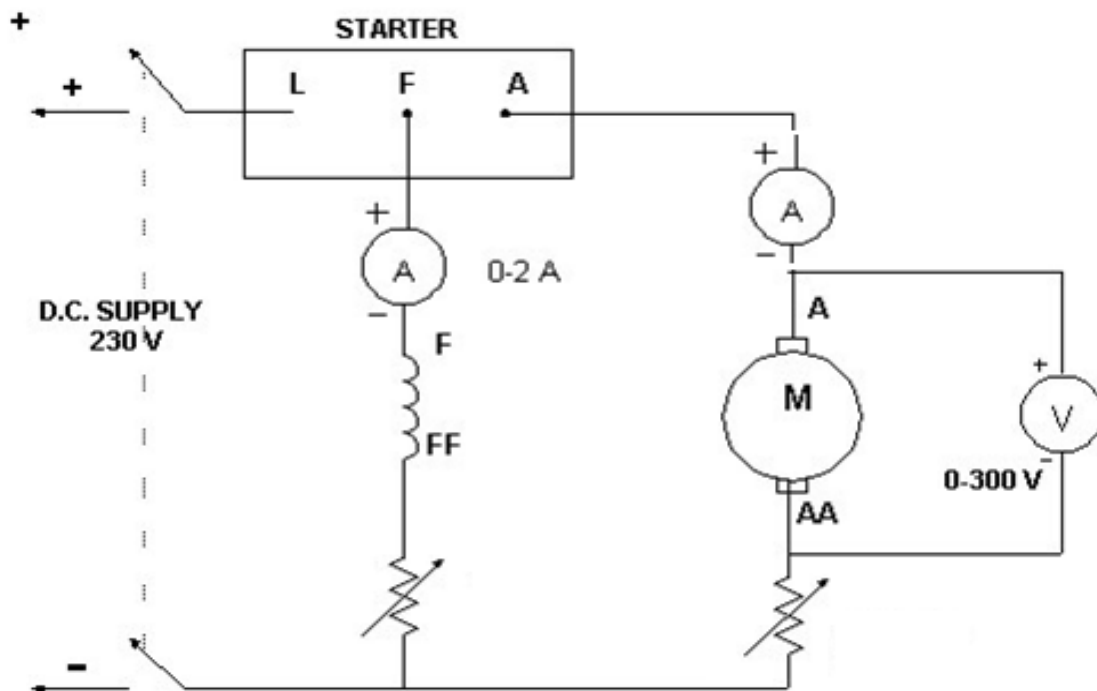

Figure-1
- i) Connect the circuit as shown in Figure-1.